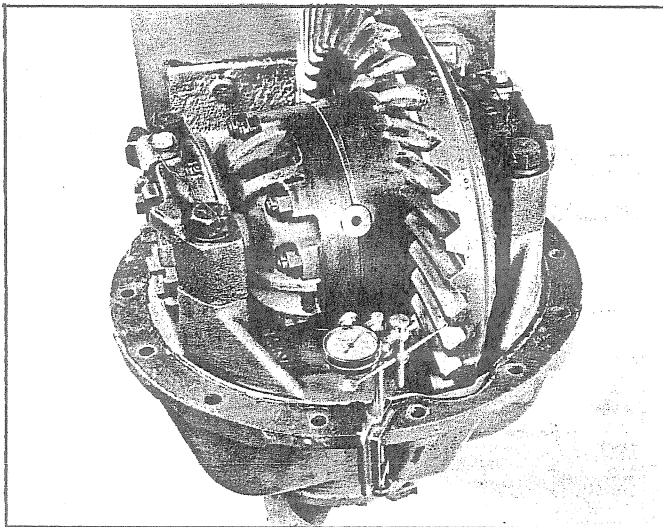

Fig. 46 - Checking Ring Gear and Pinion Backlash
1. Check and record ring gear backlash with a dial indicator if the same gears are to be reinstalled. See Fig. 46.